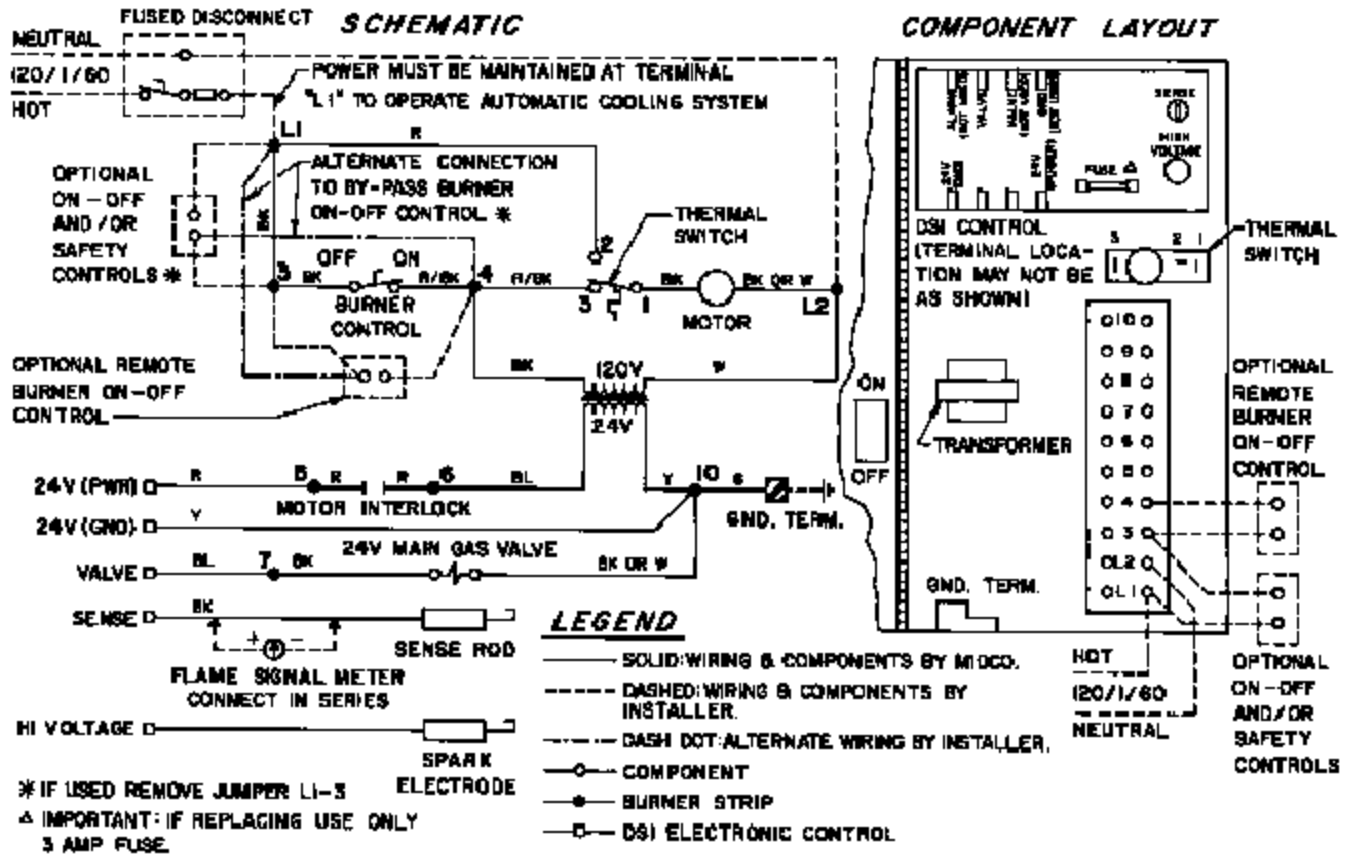

Figure 2 Wiring Diagram
**⚠ CAUTION: In order for the automatic cooling system to function, power must be maintained to burner strip terminal L1. Do not install any safety or on-off controls in the circuit between the fused disconnect switch and strip terminal L1. Optional remote control devices should be connected in place of, or in addition to, the switch or timer as indicted in Figure 2 Wiring Diagram.**